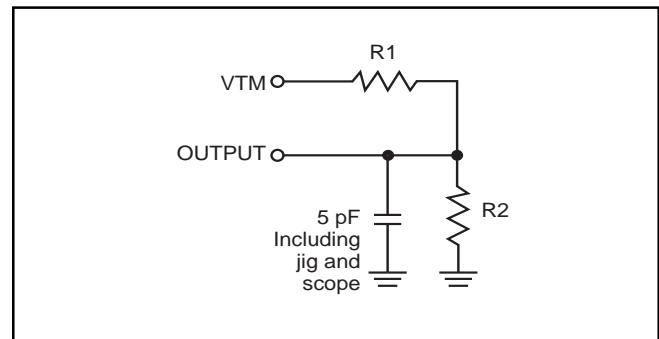

Figure 2
- Tested with the load in Figure 2. Transition is measured  $\pm 500$  mV from steady-state voltage. Not 100% tested.
3. Tested with the load in Figure 2. Transition is measured ±500 mV from steady-state voltage. Not 100% tested.